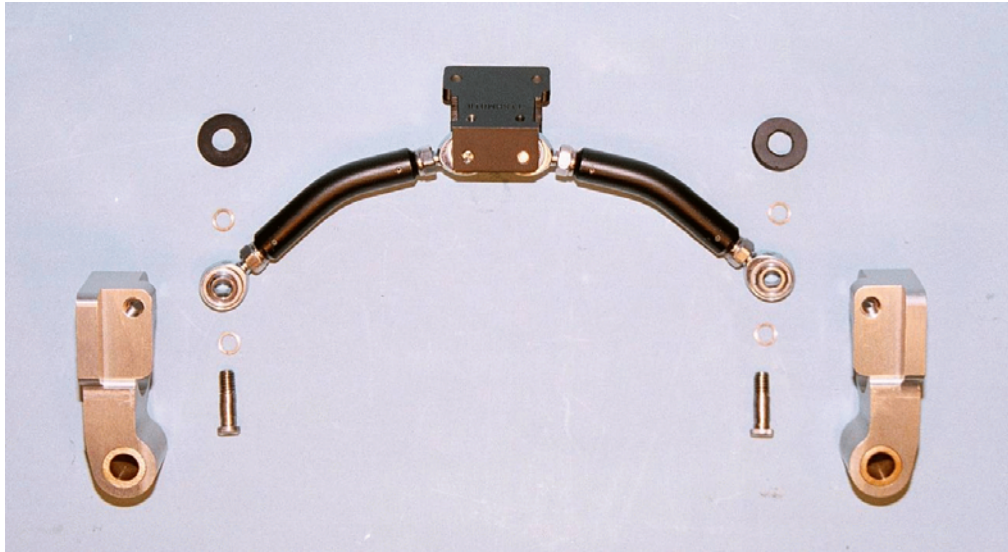

Figure 8.5- Clavicle / yoke mount exploded assembly
3. Position a Yoke Mount / Clavicle Washer (T1SHM010) on both sides of the right Clavicle Assembly (T1SHM002) ball end joint. Position a Rubber Washer (T1SHM036) over the clavicle mounting hole in the Right Shoulder Yoke Mount Assembly (T1SHM007). Secure the clavicle with a Yoke Mount / Clavicle Bolt (T1SHM016) {3/16}, as shown in **Figure 8.5**.